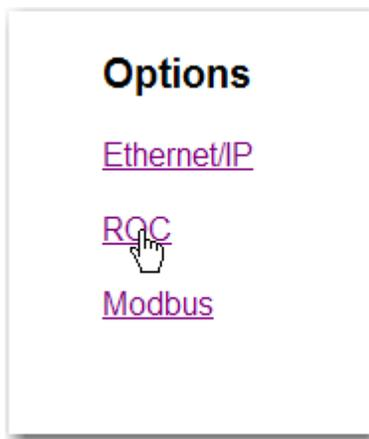

FIG. 252 CONFIGURATION - OPTIONS/SELECTING RATE-OF-CHANGE
Step 3. Click on "ROC". (See Fig. 252) The Rate of Change page appears. (See Fig. 253)